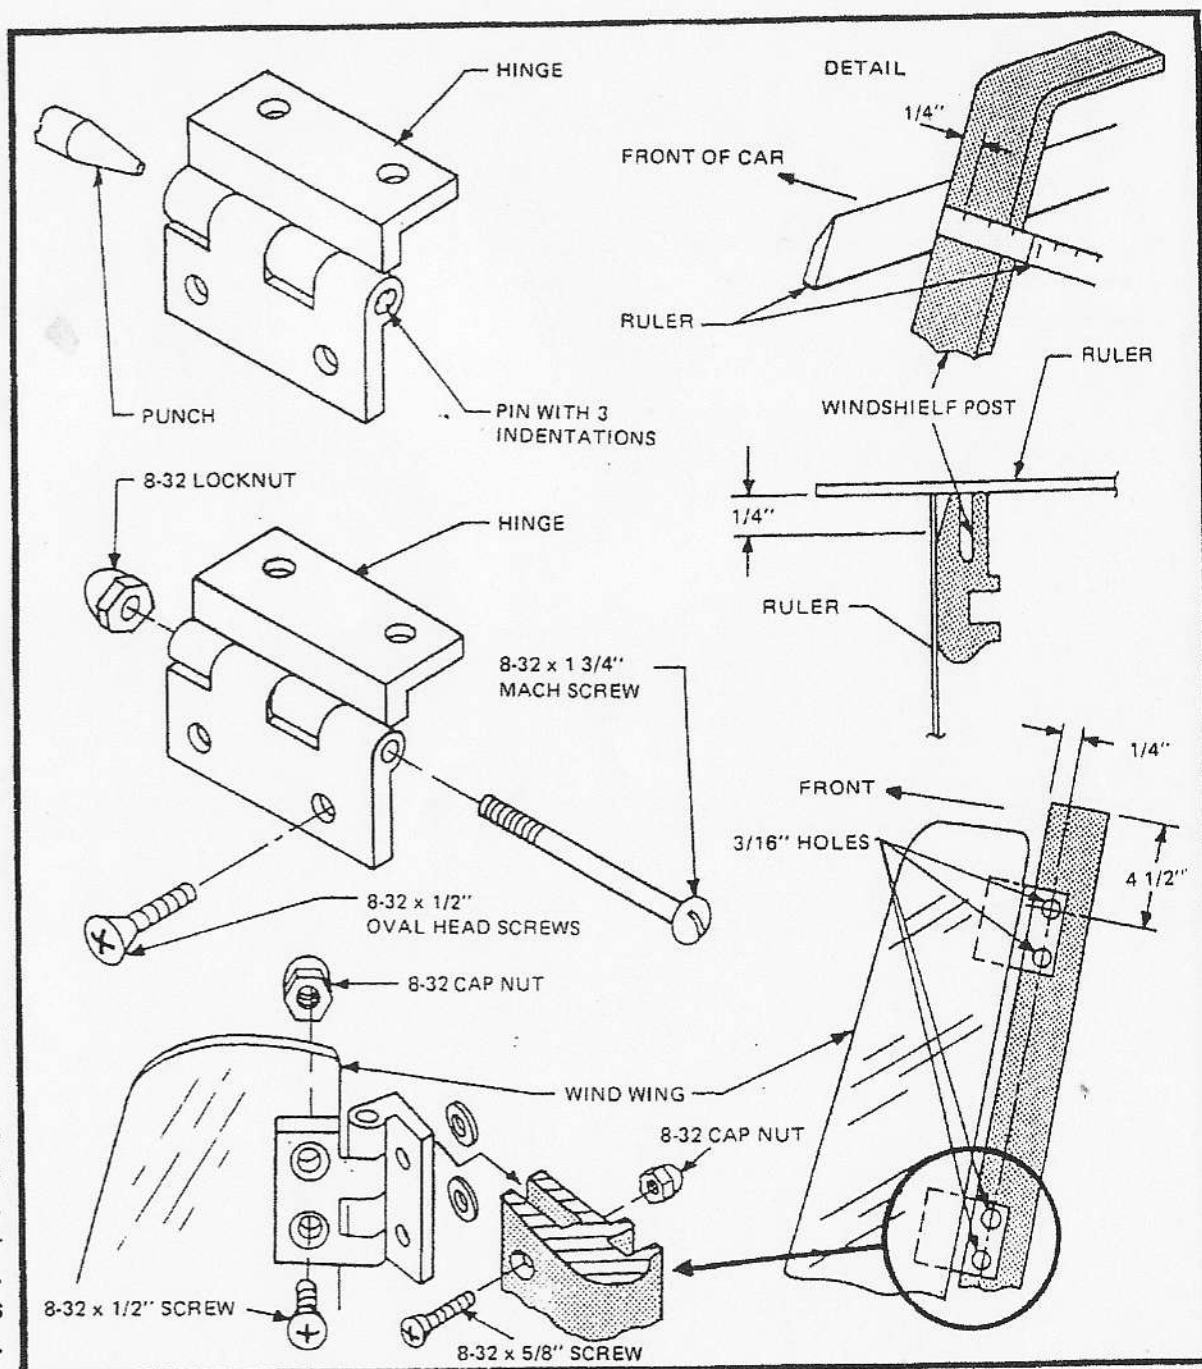

Figure 92
- ☐ Using a punch, drive out the pin holding the hinge together (One end of the pin will have 3 indentations in it. Drive the pin out by punching from the opposite smooth side.) Refer to Figure 92